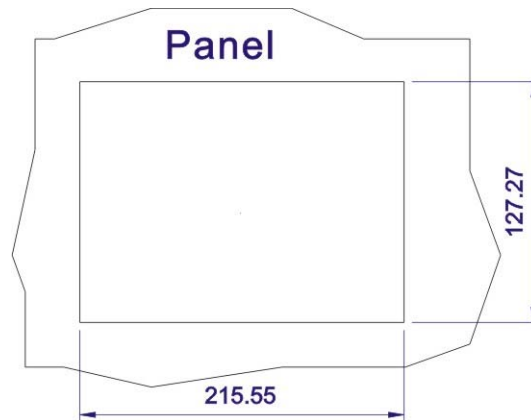
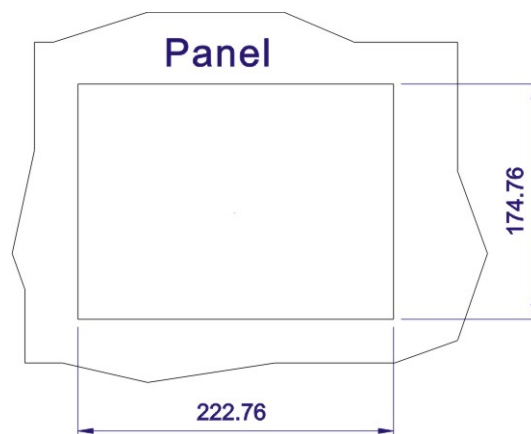
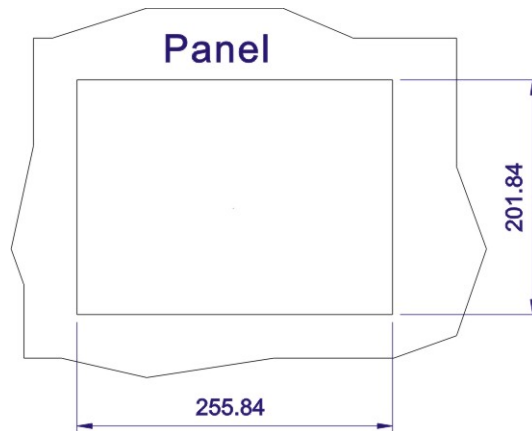
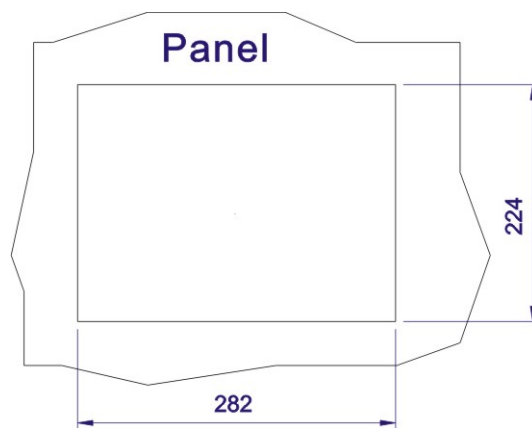

Figure 4-15: AFL-07A-N270 Panel Opening
Figure 4-16: AFL-08AH-N270 Panel Opening
Figure 4-17: AFL-10A-N270 Panel Opening
Figure 4-18: AFL-12A-N270 Panel Opening
- Step 2:** Cut out a section from the panel that corresponds to the rear panel dimensions of the flat panel PC. Take care that the panel section that is cut out is smaller than the overall size of the frame that surrounds the flat panel PC but just large enough for the rear panel of the flat panel PC to fit through (see **Figure 4-15**, **Figure 4-16**, **Figure 4-17** and **Figure 4-18**).